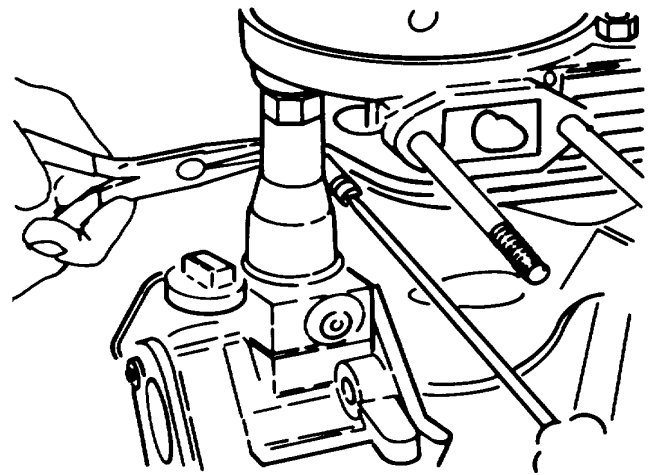

Figure A-59. Plush Rod
- (2) Insert the push rods through the push rod tube into the top of the compression release. Both push rods are alike. The opening in the compression release closest to the engines center is for the intake push rod. This rod should go to the rocker arm on the air cleaner (intake) side of the engine. Install the cylinder shield bolt and tighten using a screwdriver and needlenose pliers. (Figure A-59.)